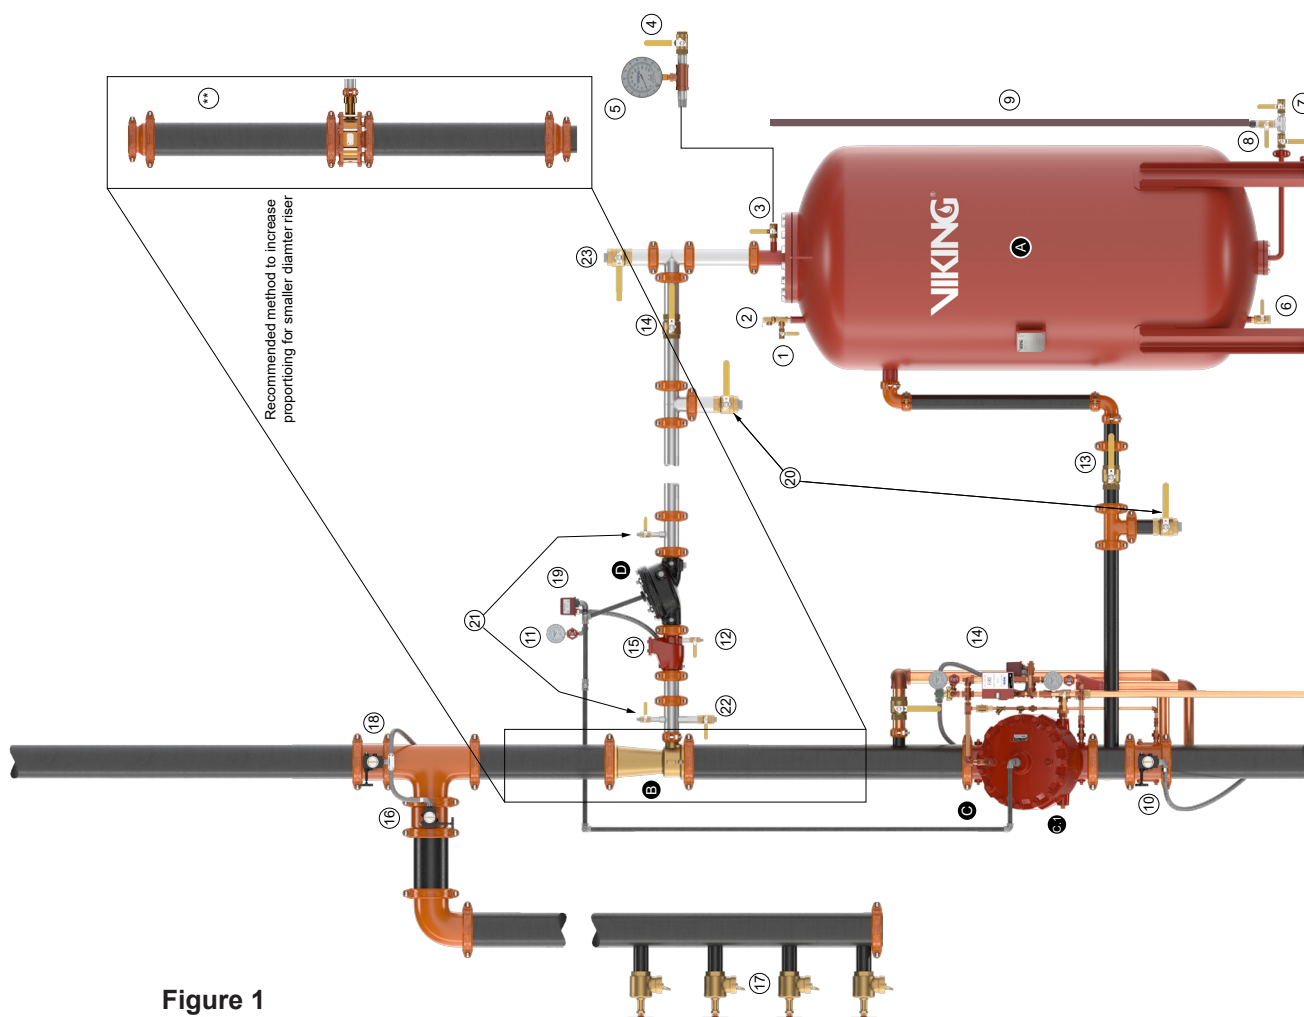

Figure 1
- n) Verify normal valve positions and secure in correct position (as detailed in Figure 1.)
- a) After a flow test or proportioning test has been conducted, the foam concentrate swing check valve (15) should be checked to ensure that it maintains a positive seal between the CCV (D) and the preaction system riser, by following the procedure outlined below.
- b) Bleed off any pressure which may have been trapped between the outlet of the chamber of the CCV (D) and the swing check valve (15) by placing a container under the foam concentrate auxiliary drain valve (12) and opening the valve slowly.
- c) Drain excess foam concentrate into container. Should the leakage continue, check the priming pressure gauge (11) on the CCV (D) to ensure that the valve is primed and closed.
- d) Flush the concentrate line downstream of the CCV (D)
- e) If the foam concentrate auxiliary drain valve (12) continues to leak foam concentrate, then the CCV (D) must be checked for proper operation and repaired if necessary. Follow the procedure in section D.1.d and refer to component data page for repair instructions.
- f) Should water continue to leak from the foam concentrate auxiliary drain valve (12), the foam concentrate swing check valve (15) clapper rubber and seat should be inspected or replaced. Refer to component data page for repair instructions.
- B. The combined total equivalent length of pipe (pipe length, plus equivalent lengths for fittings and valves) including both the water supply inlet piping (13) and the foam concentrate discharge piping (14), should not exceed 165 equivalent feet (50.3 meters); specifically, 100' (30.5 m) water supply and 65' (19.8 m) foam concentrate piping.
- C. The CCV (D) and swing check valve (15) must be connected adjacent to the ratio controller using pipe nipples as short as possible.
- D. Figure 1 is a general schematic of the required piping arrangement. Refer to the appropriate technical data page for specific information regarding the valve, tank, and related trim and devices.
- F. The CCV (D) does not require any trim, except for a 1/2" priming line and water pressure gauge and 3-way valve (11) from the main deluge valve (C) to the priming chamber of valve (D). Plug all the remaining valve trim outlets. Connect the CCV (D) priming line to deluge valve (C) as shown on Figure 1. Refer to the Valves section of the website to find the correct trim kit part number for the corresponding size of CCV (D) required.